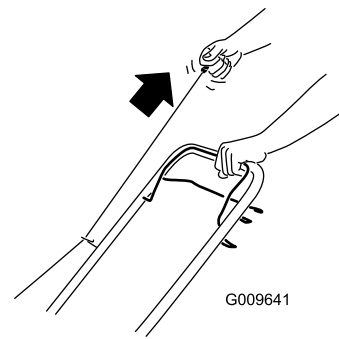

Figure 14
2. Pull the recoil start handle (Figure 14).
Note: When you pull the recoil start handle, pull it lightly until you feel resistance, then pull it sharply (Figure 14). Allow the rope to return to the handle slowly.